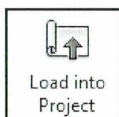

Fig. 06.37.
- Klik *Load into Project* (Fig. 06.37).